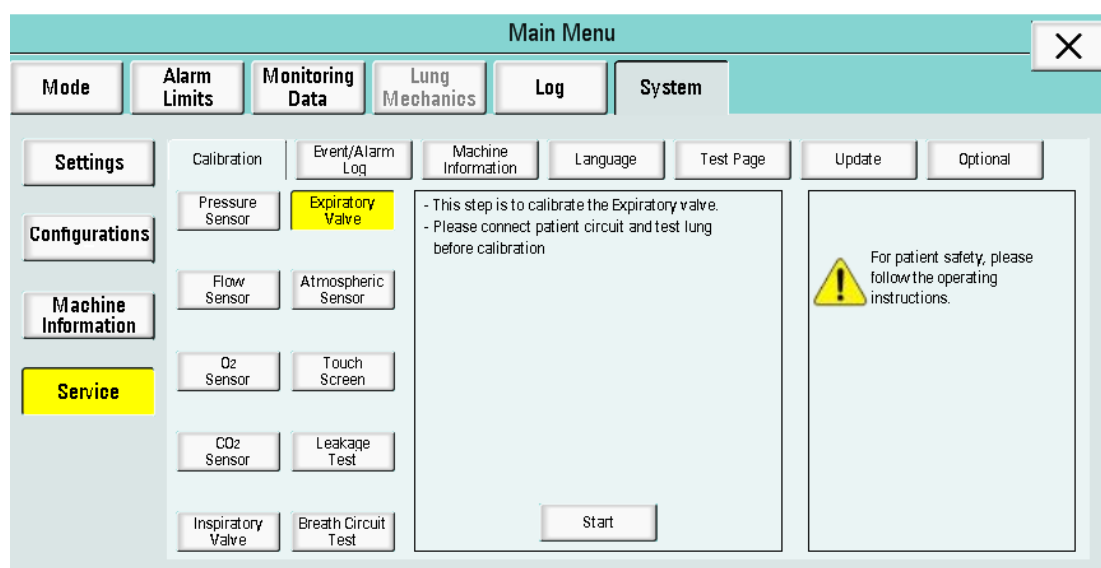

Figure 6-65
(6) Expiratory Valve Calibration: Click “Expiratory Valve” to enter the interface. A message displayed: “This step is to calibrate the expiratory valve. Please connect patient circuit and test lung before calibration”, as shown in Figure 6-65.